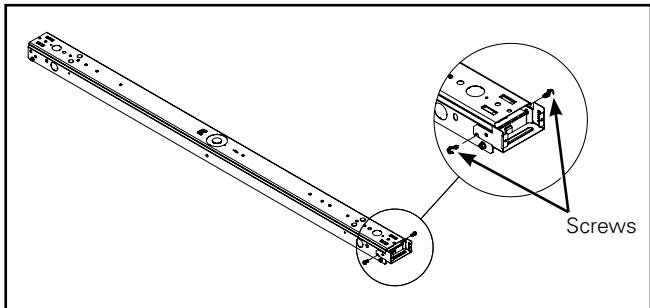

Figure 3.
3. Secure Junction box lower half using screws provided. (Figure 3.)